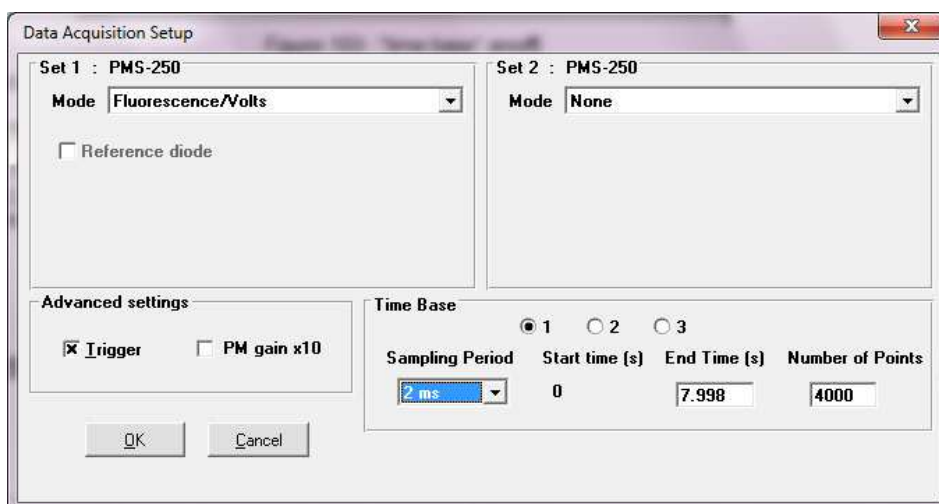

Figure 104 : Data acquisition setup window
- The data acquisition window in fluorescence mode is presented in Figure 104.
- Check the **Trigger** box to control the shots from the Bio-Kine program (see Figure 104). This is used to start the data acquisition at a trigger signal. The trigger will occur on the falling edge of a TTL pulse sent to the trigger input of the A/D board. This mode will be used to synchronize the data acquisition with experiments.